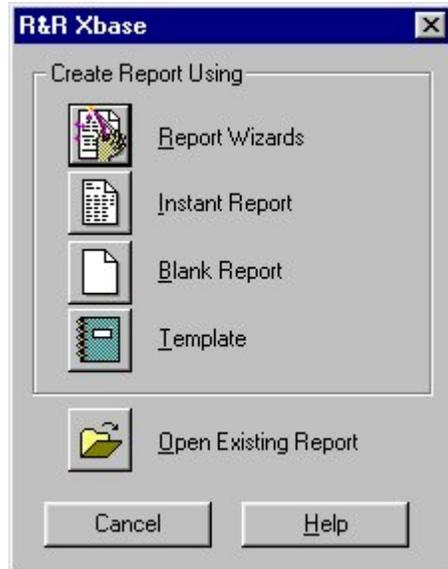

Figure 2.1 Startup Dialog
1. Start Report Designer. By default, a dialog displays (see Figure 2.1) offering the following options: Report Wizards, Instant Report, Blank Report, and Template. (Note that you can use Options ⇒ Preferences to specify that Report Designer bypass this dialog and go directly to the option that you choose. See Chapter 5, "Setting Defaults," for more information.)